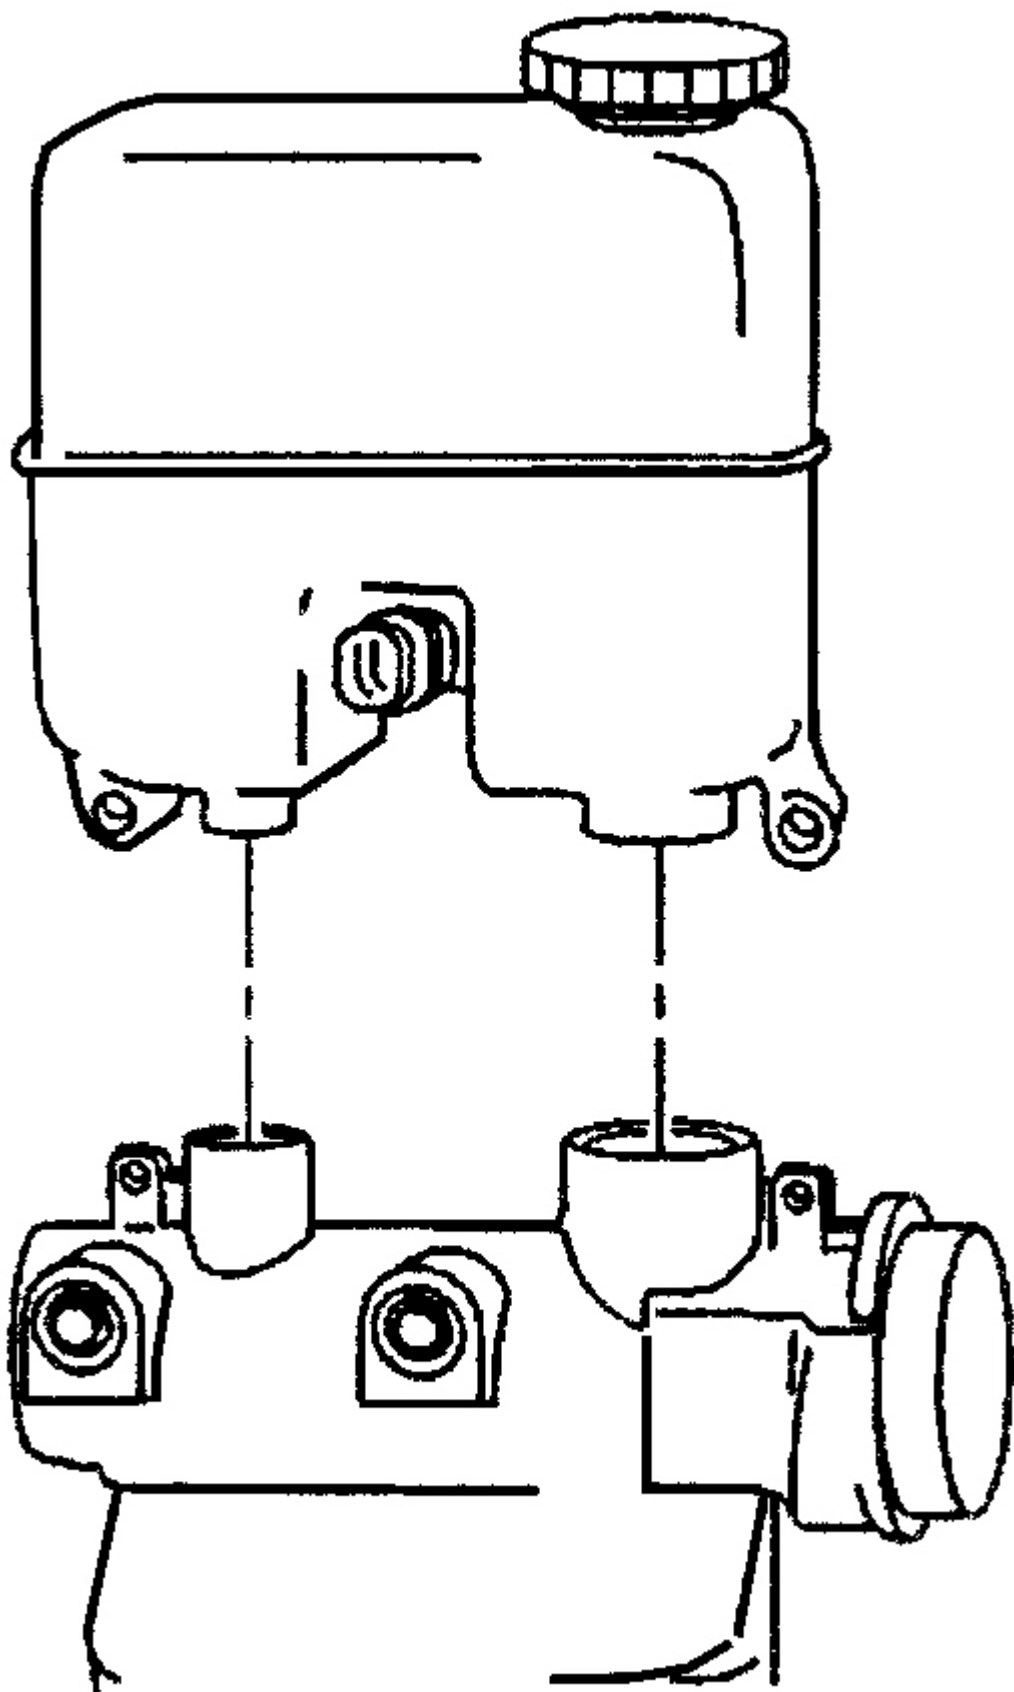

Fig. 38: Removing & Installing Master Cylinder Reservoir
3. Carefully remove the reservoir retaining pins. Remove the reservoir from the master cylinder by pulling the reservoir straight up and away from the cylinder. See **Fig. 38**. Remove the seals from the master cylinder.
3. Install the reservoir to the master cylinder by pressing the reservoir straight down on the master cylinder until the pin holes are aligned. See **Fig. 38** . Carefully install the reservoir retaining pins to secure the reservoir. Place the brake fluid level sensor into the reservoir, press into place to secure the sensor retaining tabs. Remove the master cylinder from the vice.